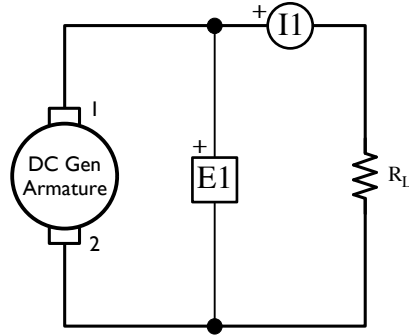

Figure 3.5: DC Generator Armature Circuit, with Load
- 23. With the power off, modify the connections to add a resistive load R_L across the generator output as shown in Figure 3.5. Use all nine resistors of the *resistive load*